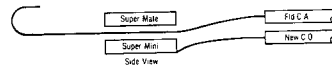
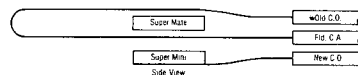

Fig. 34—Super Mate body or Super Mini body.
Fig. 35—Lay corresponding through pairs into Super Mate Module.
- e. Place Super Mate body onto Super Mini body. See Figure 34. Trace corresponding through pairs (old) and lay into matching wire channels of the Super Mate Module. See Figure 35.